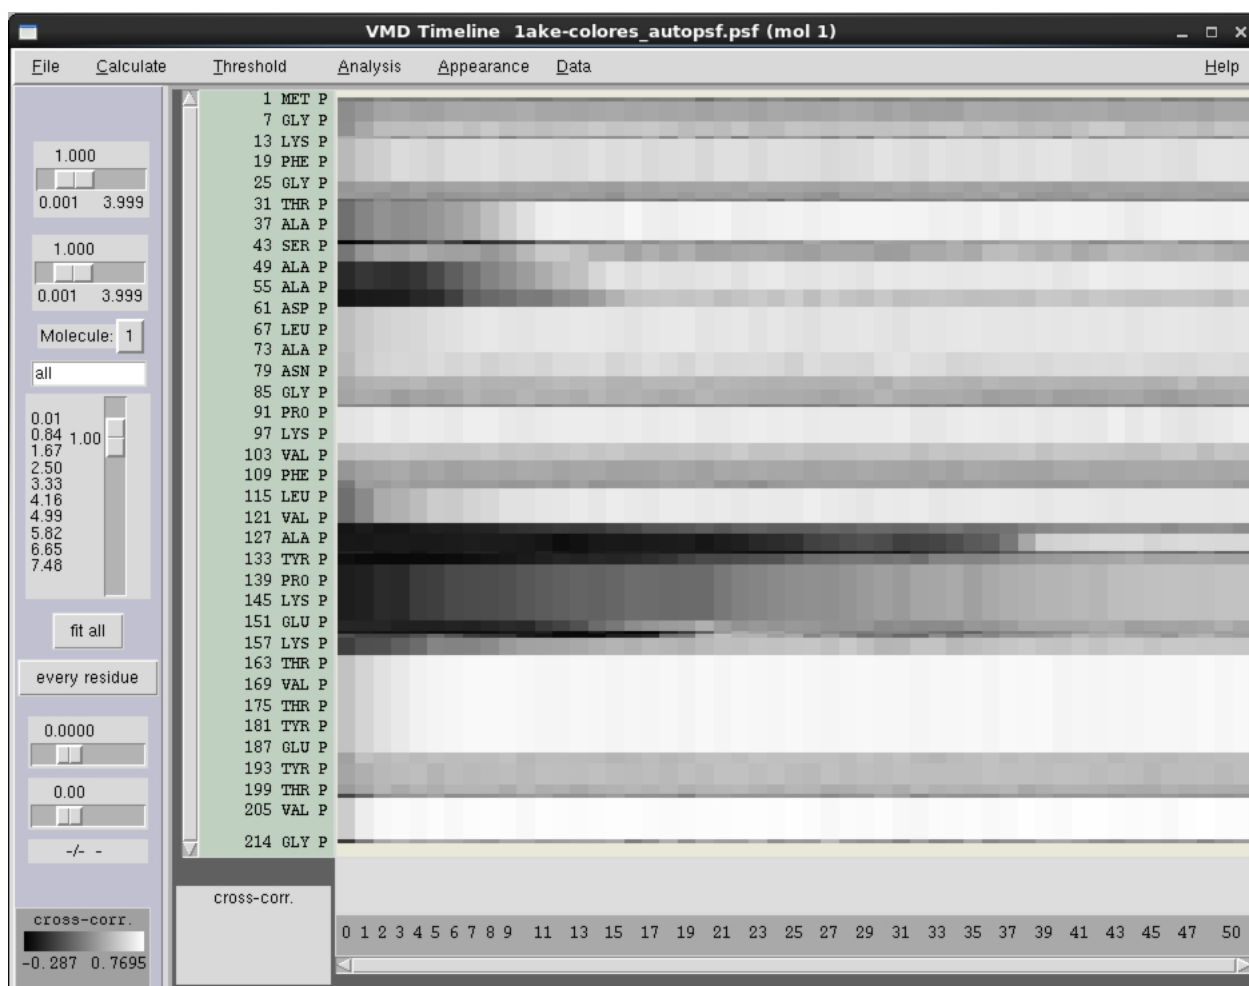

Figure 23: Timeline window after correlation analysis. Residues on the y axis, trajectory frames on the x axis
- 7 Select the OK button at the bottom of the parameters window. This will begin the correlation calculation and a progress window will appear. Once the calculation is complete, your Timeline window should look similar to Fig. 23.